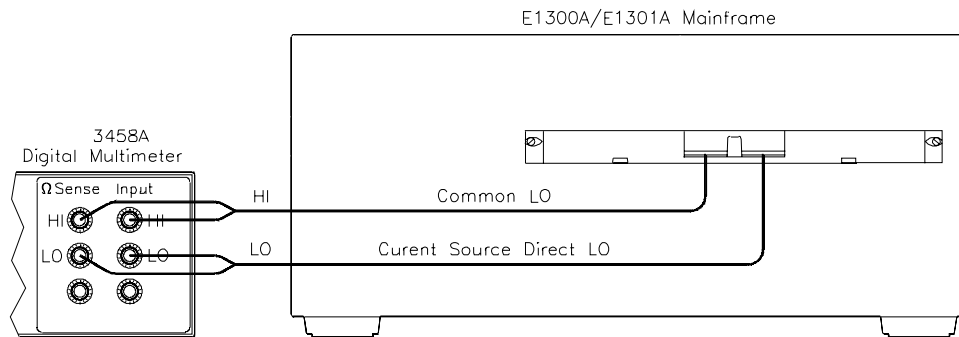

Figure 2-7. Chs 08-15 and 91-92 LO Measurements Connections
- Connect DMM leads as shown in Figure 2-7